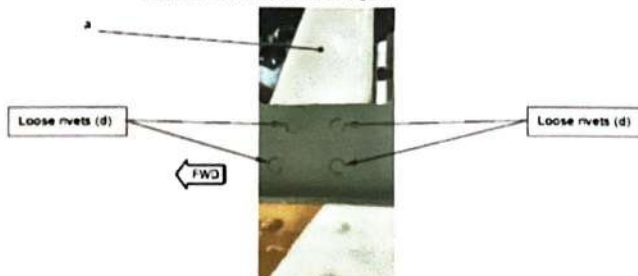

Figure 2
- Cut and remove the Teflon tape (c) on the hatched area (A) with the cutter (yy) (not shown).
3.B.2.d. Visual inspection of the rivets head of the rear bearing support under the Teflon tape (Figure 2)
A loose rivet is a rivet with black mark or missing paint around the rivet head, refer to the Figure 2